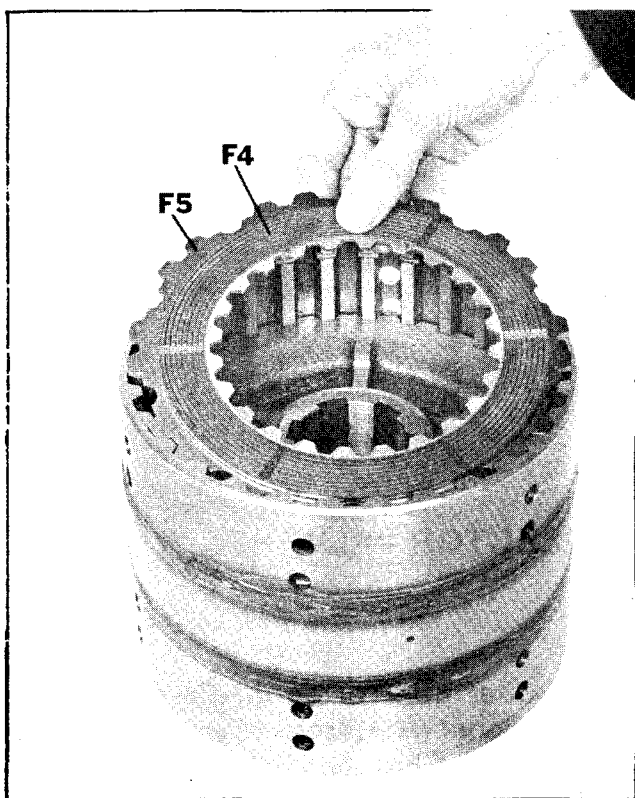

Figure 32
5. Install driving plate (F-5) and then disc (F-4) into clutch housing (Figure 32).